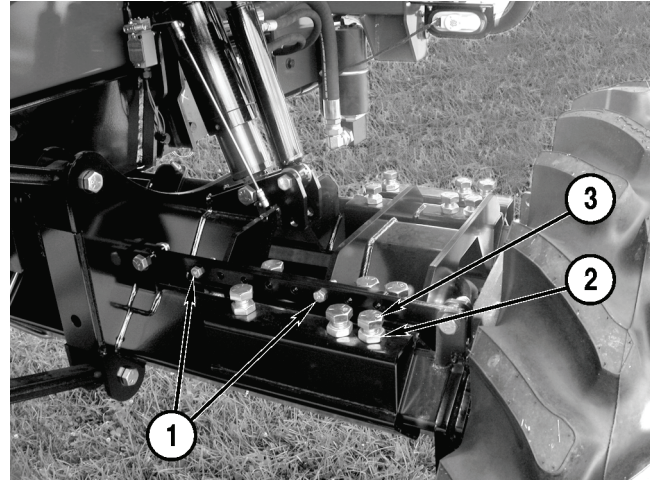

Figure 3-28
2. Remove the two inner bolts (**Figure 3-28, 1**) from the locking bar.
3. Loosen the twelve jam nuts (**Figure 3-28, 2**) and twelve bolts (**Figure 3-28, 3**) on the two axle braces. The left rear axle is shown in **Figure 3-28**.
5. Tighten the twelve bolts (**Figure 3-28, 3**) to 80 lb-ft (108 N·m) to secure the axle in place. Tighten the twelve jam nuts (**Figure 3-28, 2**).
6. Install the two locking bar bolts (**Figure 3-28, 1**) and tighten.